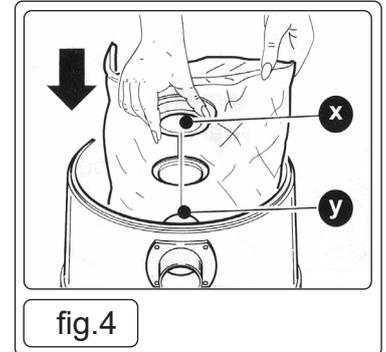

fig.4
- 7.2.2. Remove the motor housing. Insert the Category M bag into the drum and fit the plastic socket "x" over the drum internal "y" spigot (fig.4).